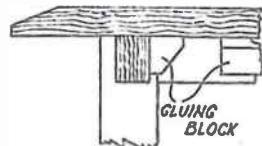
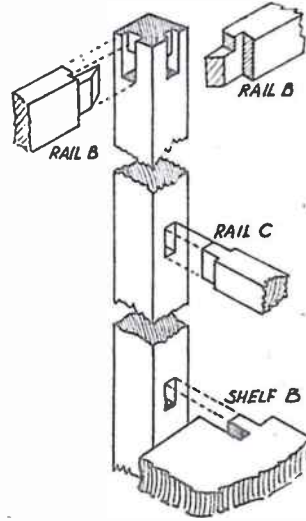

Fig. 3
Fig. 4
The table top may have a wide chamfer carried round on all four sides as shown in Fig. 2 and in the detail (Fig. 3). A plain side-view of the table with dimensions is given in Fig. 2, and Fig. 4 shows the method of framing the parts together. In Fig. 5 is given a cross-section of the joint between the legs and the top rails. A second detail showing the haunched top of the joint is given in Fig. 4.
45 degrees as shown in Fig. 5. The shelf (B) should be framed into the legs, first notched over them and tenoned into them as shown in the detail at the lower end of Fig. 4. Care must be taken to arrange the small tenons on rails (C) so that they line up
accurately with the several mortises in shelf (B) and top rails (A). The rails (C) may be simply housed full-section ¾in. in depth, or they may have small tenons cut on their ends as shown in the detail Fig. 4.
All the woodwork should be cleaned up ready for assembling and gluing together. First fix the rails (C) together, and then fix them into the shelf and top cross-rails. The whole is then fixed into the legs, care being taken not to use too much glue. Next add the table top and fix it to the rails by means of glued angle blocks as seen in Fig. 3. (S.W.C.)